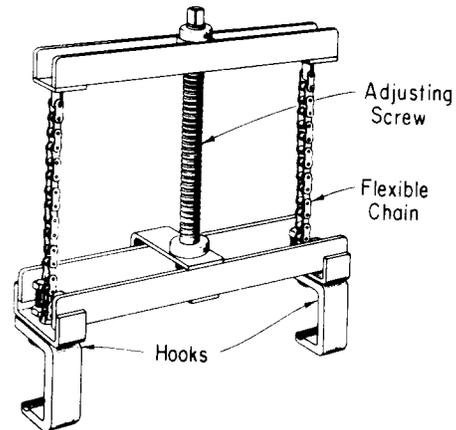

Fig. 13—D Strand Shifter
7.02 The *D strand shifter* (Fig. 13) consists of an upper and lower frame, an adjusting screw, two flexible chains each with a hook at one end, and a ratchet wrench (not shown). The adjusting screw is captive mounted in the lower frame and threaded into the upper frame. The flexible chains, as shown in the figure, pass through holes in the lower frame and are secured to the ends of the upper frame. Turning the adjusting screw lowers or raises the upper frame, thus lowering or raising the hooks.